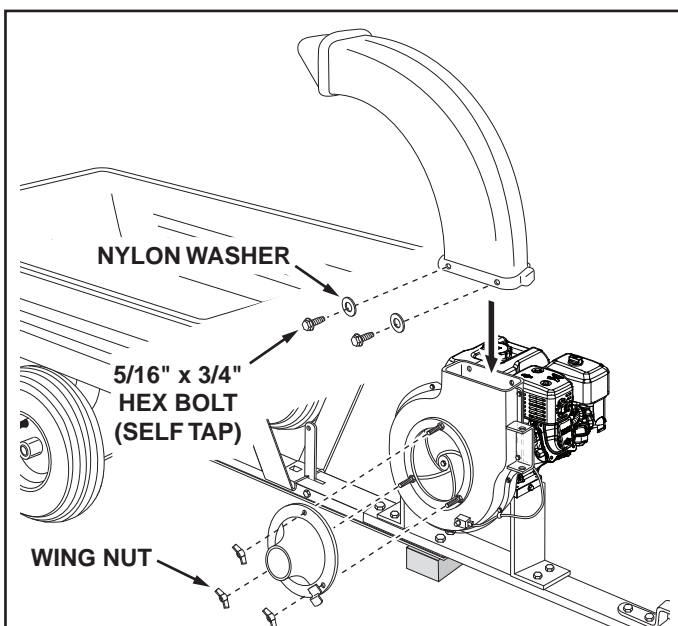

FIGURE 8
- Attach the plastic elbow to the top of the engine housing using four 5/16" x 3/4" hex bolts (self tapping) and nylon washers. See figure 8.
- Connect the hose adapter to the engine housing by fastening three wing nuts to the pre-assembled bolts in the engine housing. See figure 8.